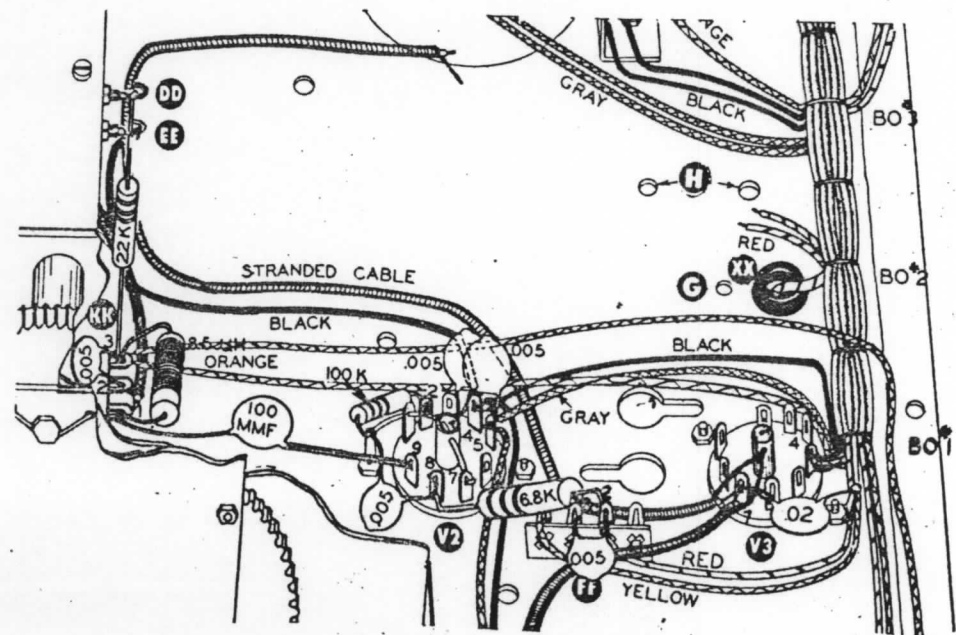

Figure 13
- (✓) Clip the leads of a .005 mfd disc ceramic capacitor to 3/8" and connect between pin 4 of tube V2 (NS) and the center post (NS). Position exactly as shown.
- (✓) Clip the leads of another .005 mfd disc ceramic capacitor to 3/8" and connect between pin 5 of tube V2 (NS) and the socket center post (S-3). Position exactly as shown.
- (✓) Clip the leads of a .02 mfd disc ceramic capacitor to 5/8" and connect between pin 7 of tube socket V3 (NS) and the ground lug adjacent to pin 4 (NS). Use sleeving on the lead to pin 7.
- (✓) Connect a 5" length of black hookup wire between pin 4 of tube V2 (NS) and the feed-through capacitor EE (S). Run this lead exactly as shown, against the chassis.
- (✓) Using 3 3/4" black hookup wire and routing exactly as shown, connect pin 4 of tube V2 (NS) to pin 4 of tube V3 (S-2).
- (✓) Connect a 100 KΩ 1/2 watt resistor (brown-black-yellow) between pin 2 of tube V2 (S-1) and the nearby ground lug (NS). See Figure 13.